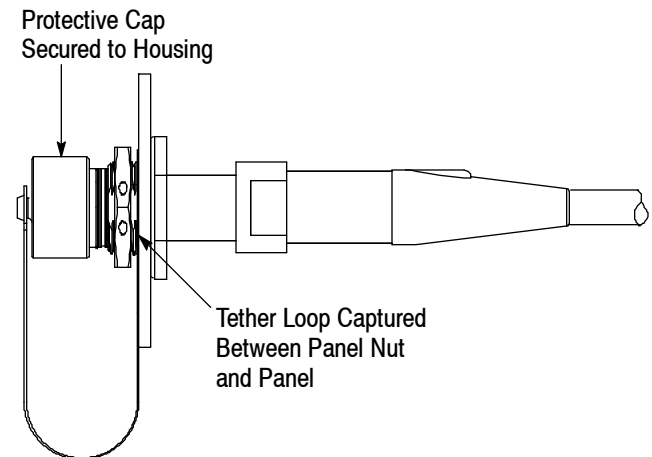

Figure 15
2. Make sure that the flange O-ring is installed in the groove of the housing flange (refer to Figure 1). Then, install the connector through the back of the panel so that the O-ring on the shoulder of the housing is flat against the panel. See Figure 15, Detail A.
3. Slide the tether loop of the protective cover over the threads at the front of the flange of the housing. See Figure 15, Detail A.
4. Thread the panel nut onto the housing. See Figure 15, Detail A. Using the jam-nut socket and torque wrench, tighten the panel nut to a torque between 20 and 30 Nm. The O-ring will be compressed and the tether loop will be captured between the panel nut and panel.
5. Thread the protective cap onto the housing. Hand-tighten the protective cap. See Figure 15, Detail B.